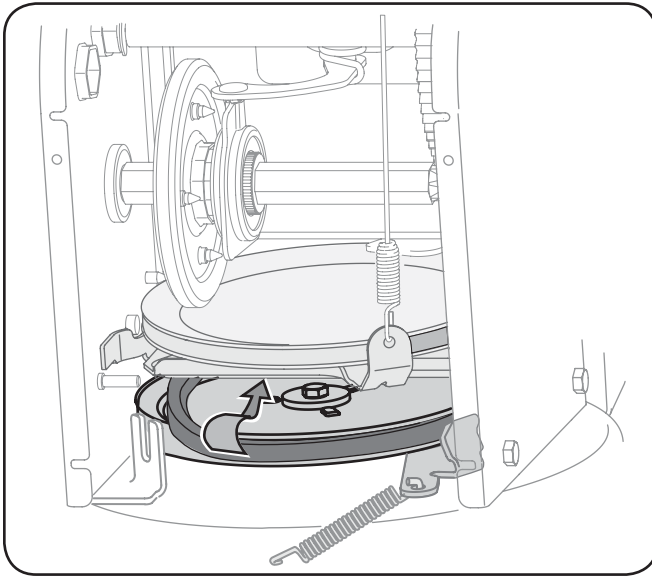

Fig. 7-5
7. Remove the belt from around the auger pulley, and slip the belt between the support bracket and the auger pulley. See Fig. 7-5.